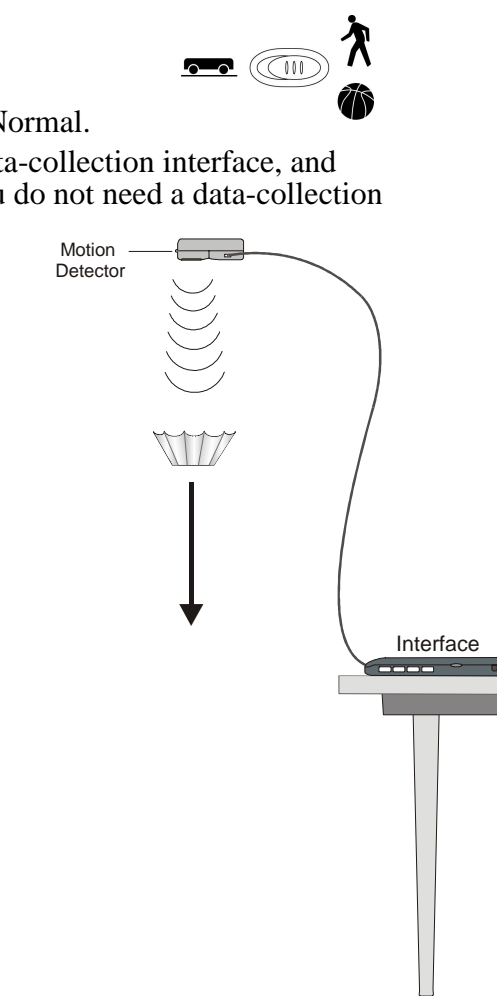

Figure 1
3. Support the Motion Detector about 2 m above the floor, pointing down, as shown in Figure 1.